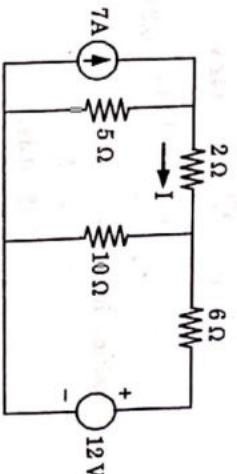

Fig. 2.
- a. Find current through  $2 \Omega$  resistance using superposition theorem in Fig. 2.